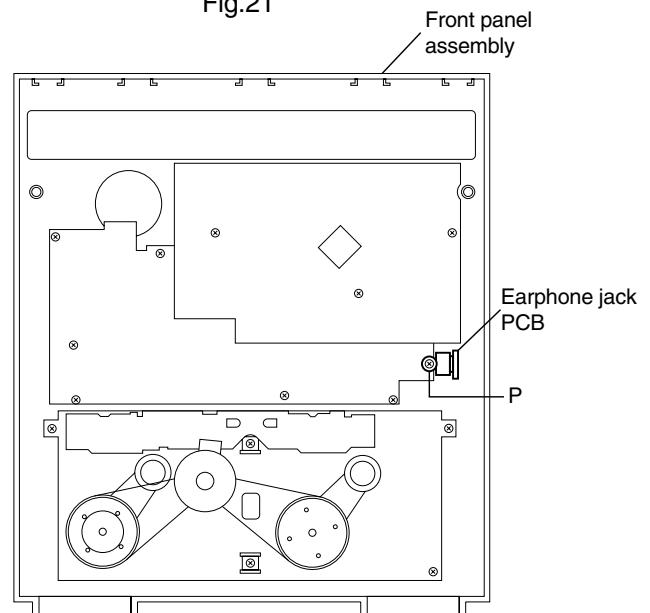

Fig.22
■ Removing the earphone jack PCB (See Fig.22)